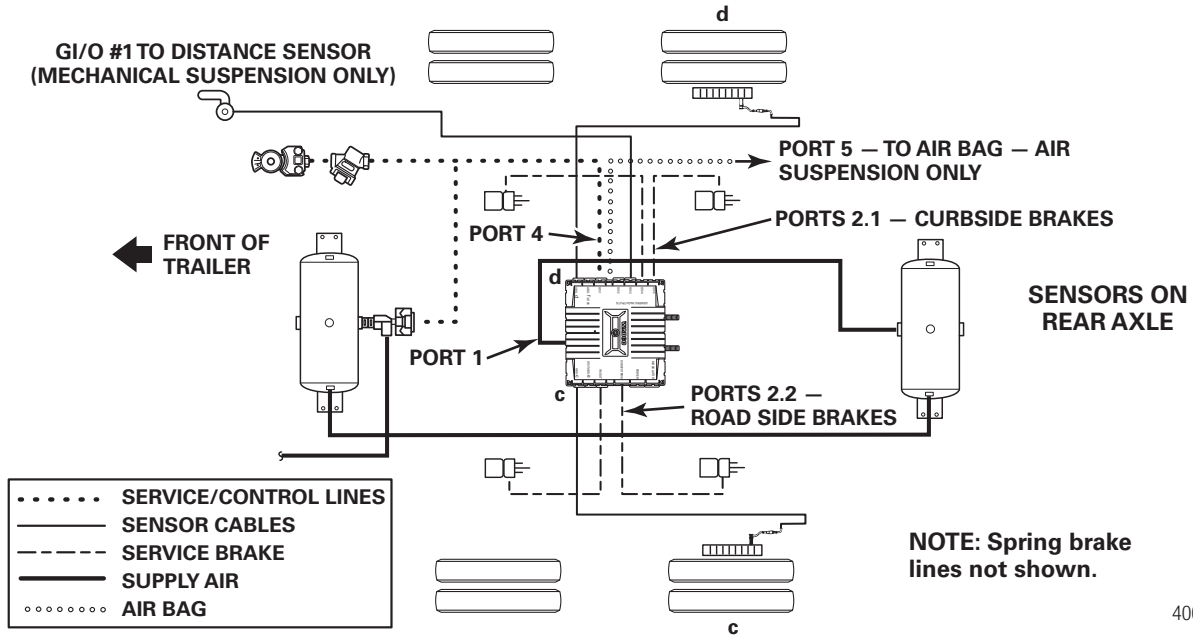
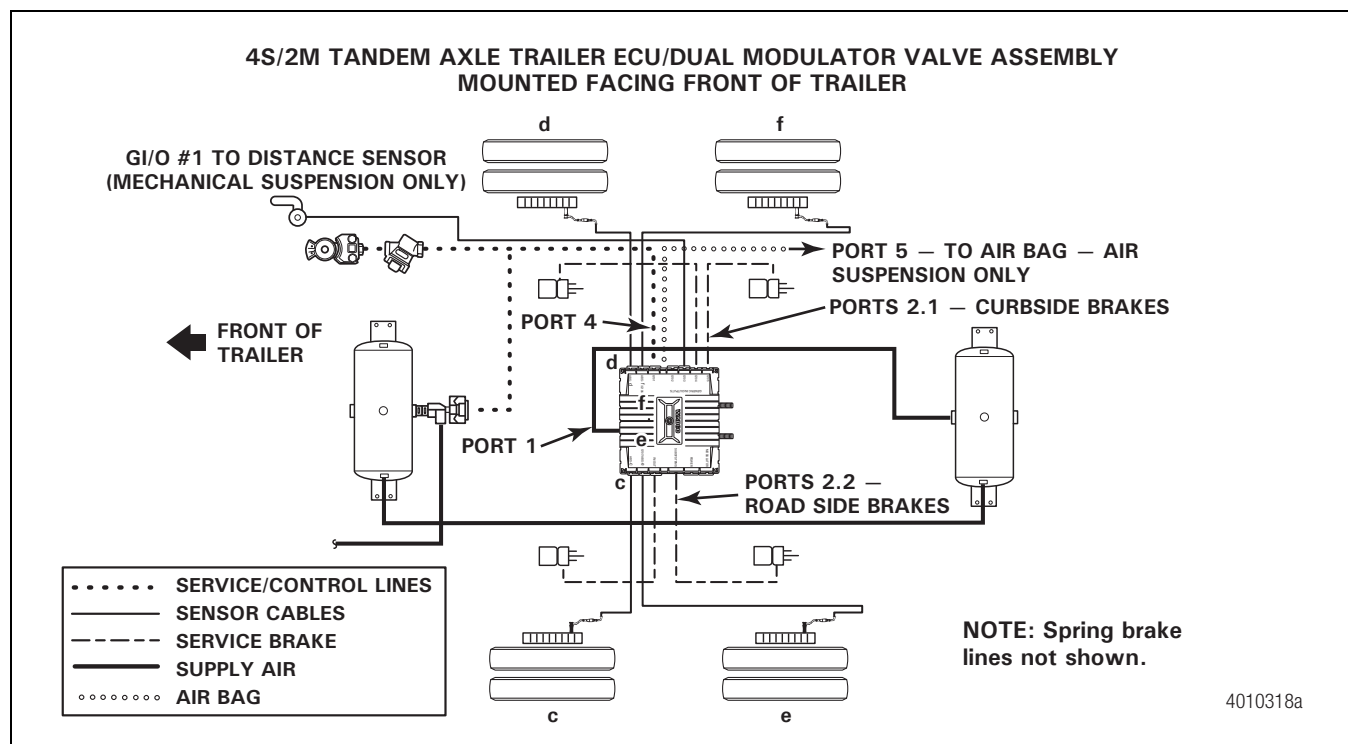

**Figure 16**
**Figure 18**
- 2S/2M (Figure 16 and Figure 18)
Typical trailer RSS layouts are illustrated in Figure 16 through Figure 24.